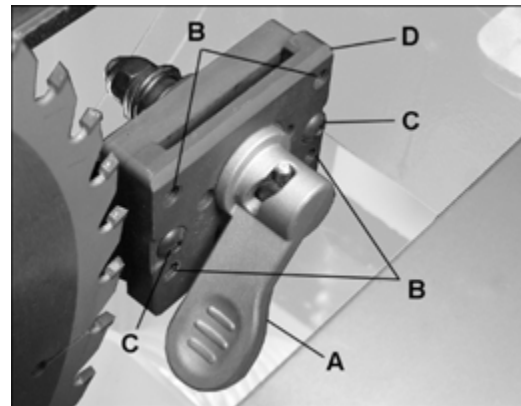

Figure 8-8
3. Pull up lever (A, Figure 8-8) and remove riving knife, making note as to which direction riving knife needs to be moved to align it with saw blade.
4. Use 3mm hex key to make adjustments to four set screws (B, Figure 8-8). Adjust any of the set
8. Use 3mm hex key to loosen two socket head button screws (C, Figure 8-8). This will allow the clamp plate (D) to slide back and forth on the fixed base.